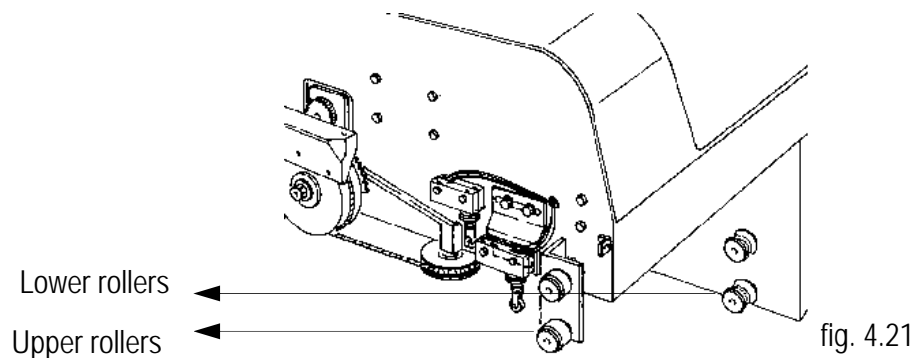

fig. 4.21
- Fit the new upper rollers (fig.4.21) after removing the rear protective guards.
- To fit the new lower rollers (fig.4.21), remove the I.I. support plate: release the flexible cable by removing the tension rod; remove the lower sliding rollers of the plate and release it from the guides.